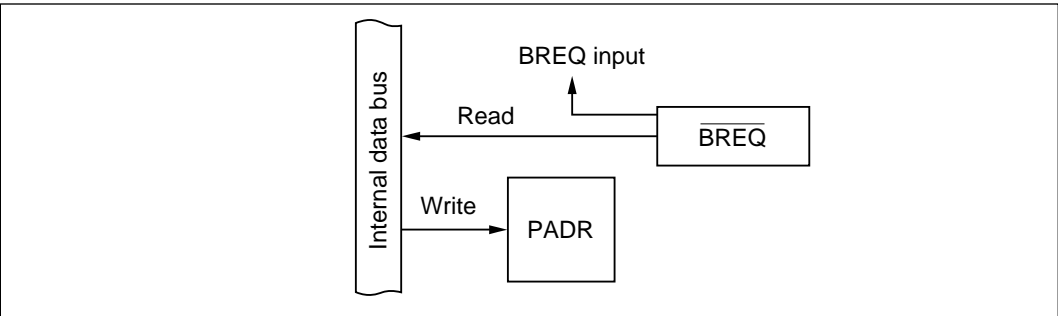

Figure 10-65 $\overline{\text{BREQ}}$ Input Pin (Modes 1 to 6)
(3) **$\overline{\text{BREQ}}$ Pin (PA₅: Modes 1 to 6):** Figure 10-65 shows a block diagram illustrating the $\overline{\text{BREQ}}$ function. Table 10-49 indicates register read/write data. When PA₅ is used for $\overline{\text{BREQ}}$ input, the value written in the port A data register (PADR) has no effect.